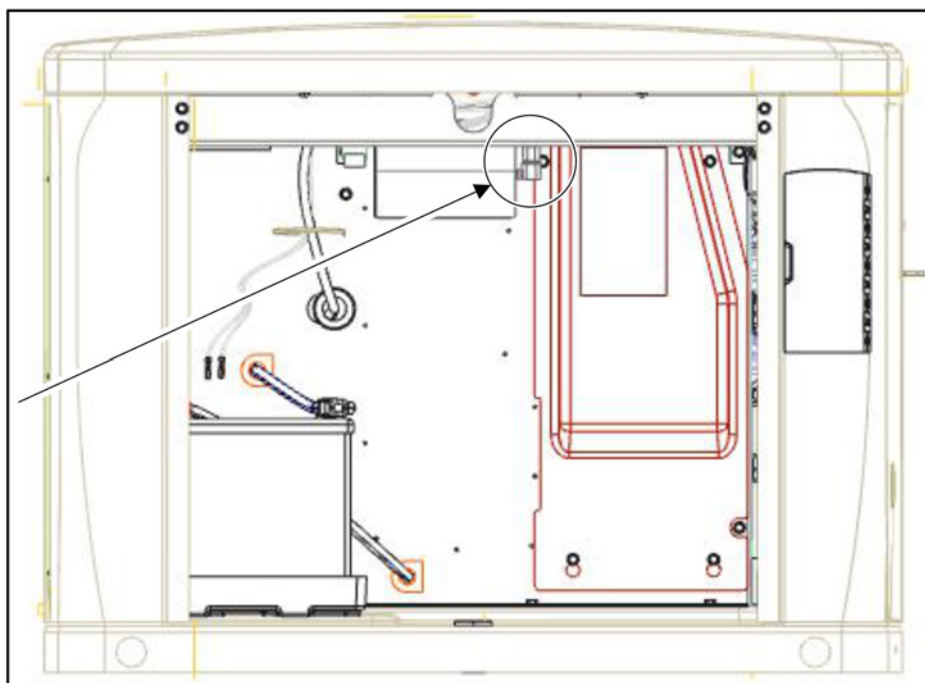

FIGURE 71. J5 LOCATION
3. Locate the J5 plug (see Figure 71).